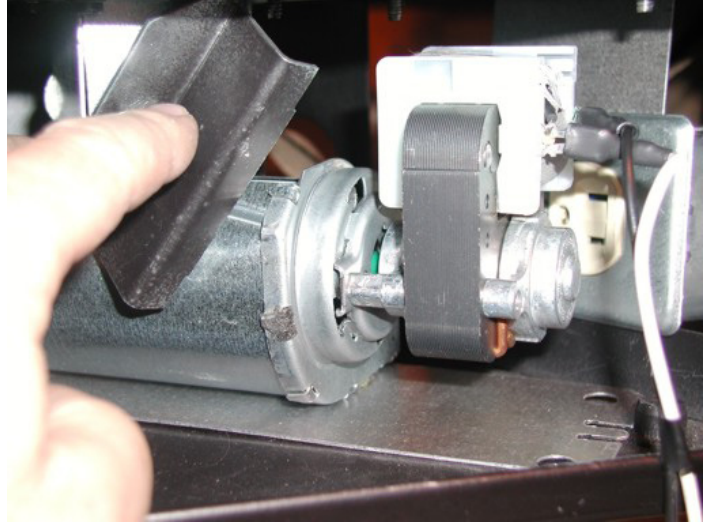

Figure 9
5. Carefully work the blower assembly rearward and to the left until the blower bracket has cleared the front flange of the fireplace bottom, and can lay flat, inside the bottom of the fireplace as shown in Figure 9.